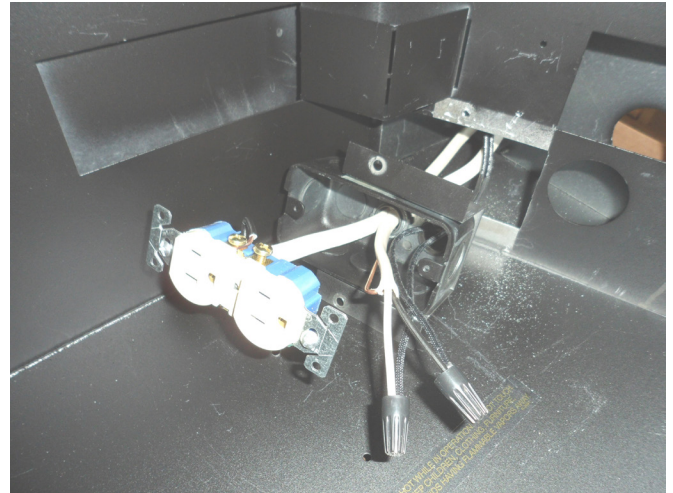

**Figure 19**
3. Lift the complete burner and valve assembly upward, then turn it sideways in fireplace opening to gain easy access to the junction box. **See Figure 19.** You may remove the complete burner and valve assembly as shown in **Figure 19.**